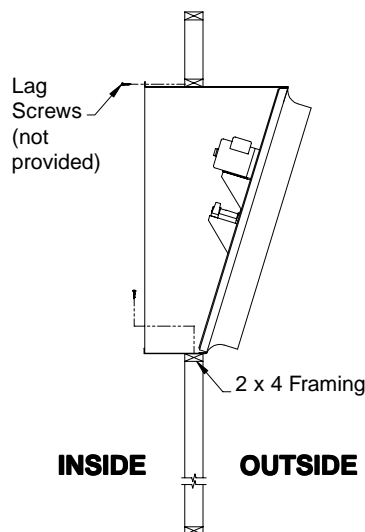

Figure 4
- 6) Insert fan into the framed opening from the inside and fasten with 1/4" diameter lag screws or #14 tapping screws (not provided). **See Figure 4.**